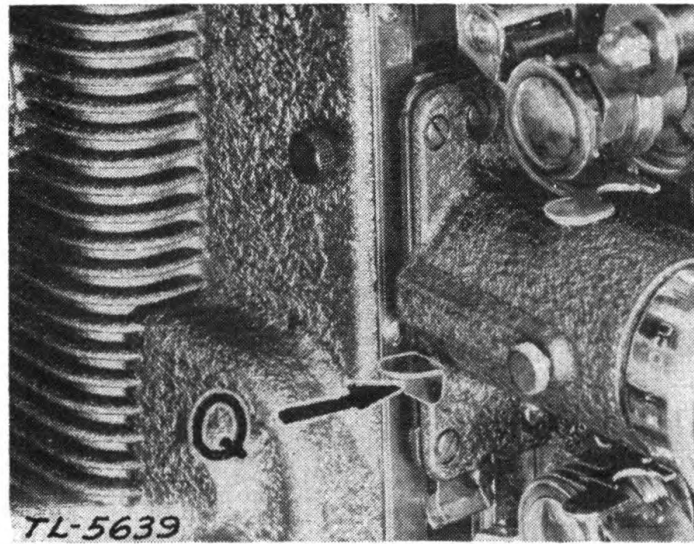

FIGURE 28.—Phonofilm framing lever.
10. Framing image.—For correct framing, each individual frame of the film must be centered properly at the film gate. When improperly framed, the image on the screen appears divided. To frame the image on the Bell & Howell and Phonofilm projectors, move the framing lever *Q* (fig. 28) up or down until the image appears nor-